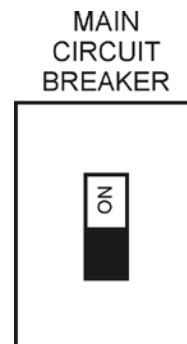

Figure 16. Main Circuit Breaker (ON)
5. Place the main circuit breaker (Figure 16) to the **ON** position. Voltage is now available at the receptacles.